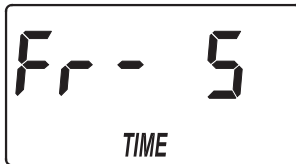

FIG. 27
1. If you completed the previous step, the fast rinse time adjust screen should show in the display (See Figure 27). Otherwise, press and hold for 3 seconds the SELECT button, until the display shows "000 - -", then press the SELECT button five times to display the fast rinse time adjust screen.